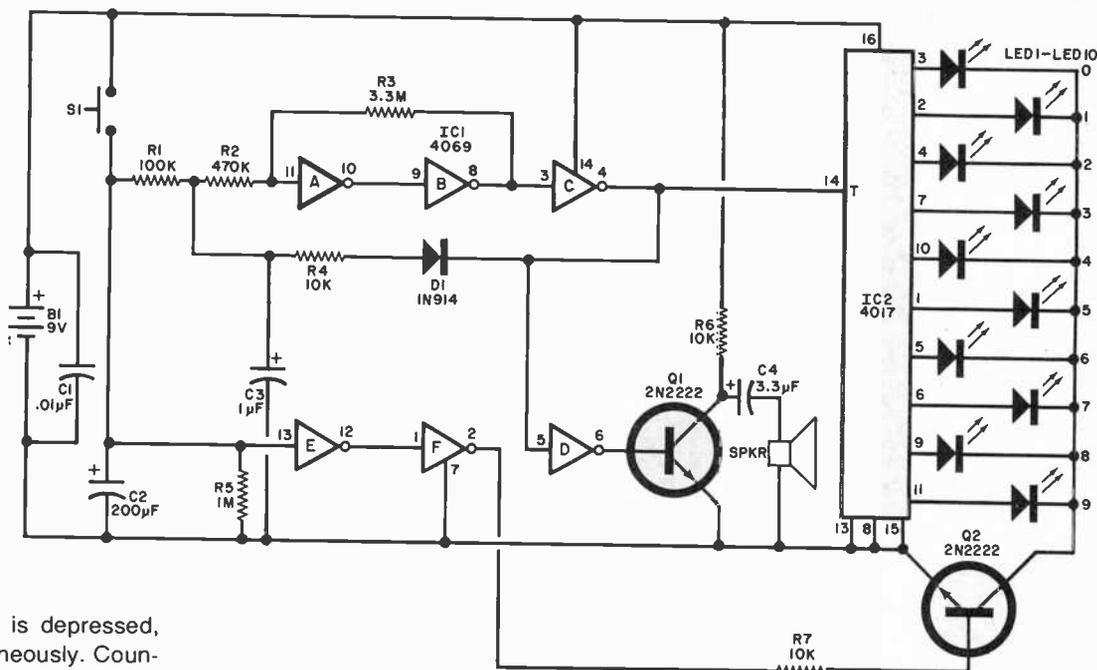

*Fig. 3. Simple binary counter illustrates counting in the 1-2-4-8-16-32 mode.*
**Binary Counter.** A circuit that demonstrates the operation of a six-bit binary counter is shown in Fig. 3. When the